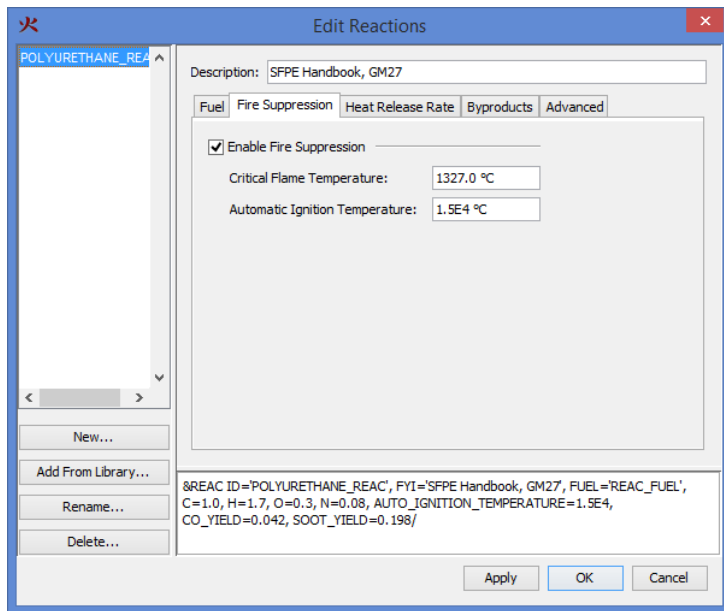

Figure 12.3. Fire Suppression panel of the Edit Reactions dialog
3. On the **Fire Suppression** tab, you can enable fire suppression and then enter values for the **Critical Flame Temperature** (CRITICAL_FLAME_TEMPERATURE) and the **Automatic Ignition Temperature** (AUTO_IGNITION_TEMPERATURE). The panel is shown in Figure 12.3.